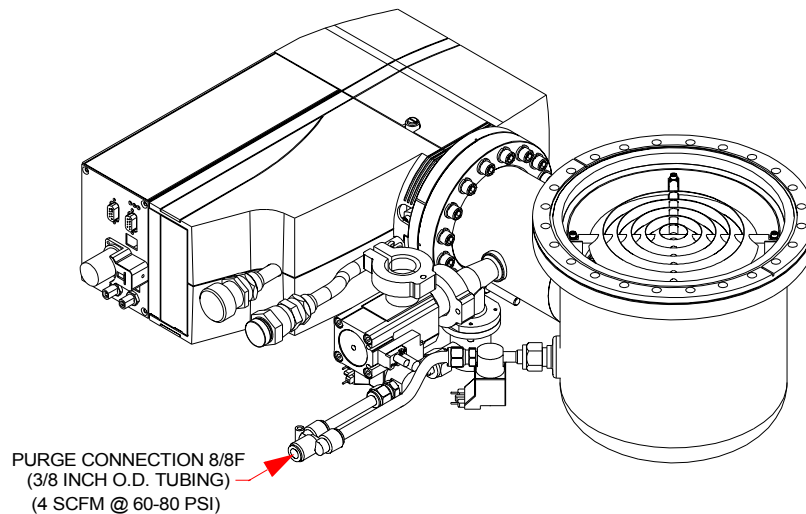

Figure 2-3: Pressure Relief Valve and Vent Line Purge Connections
1. Connect tubing to the Nitrogen purge connection as shown in Figure 2-3 . See Table 1-3 and Table 1-4 for requirements.